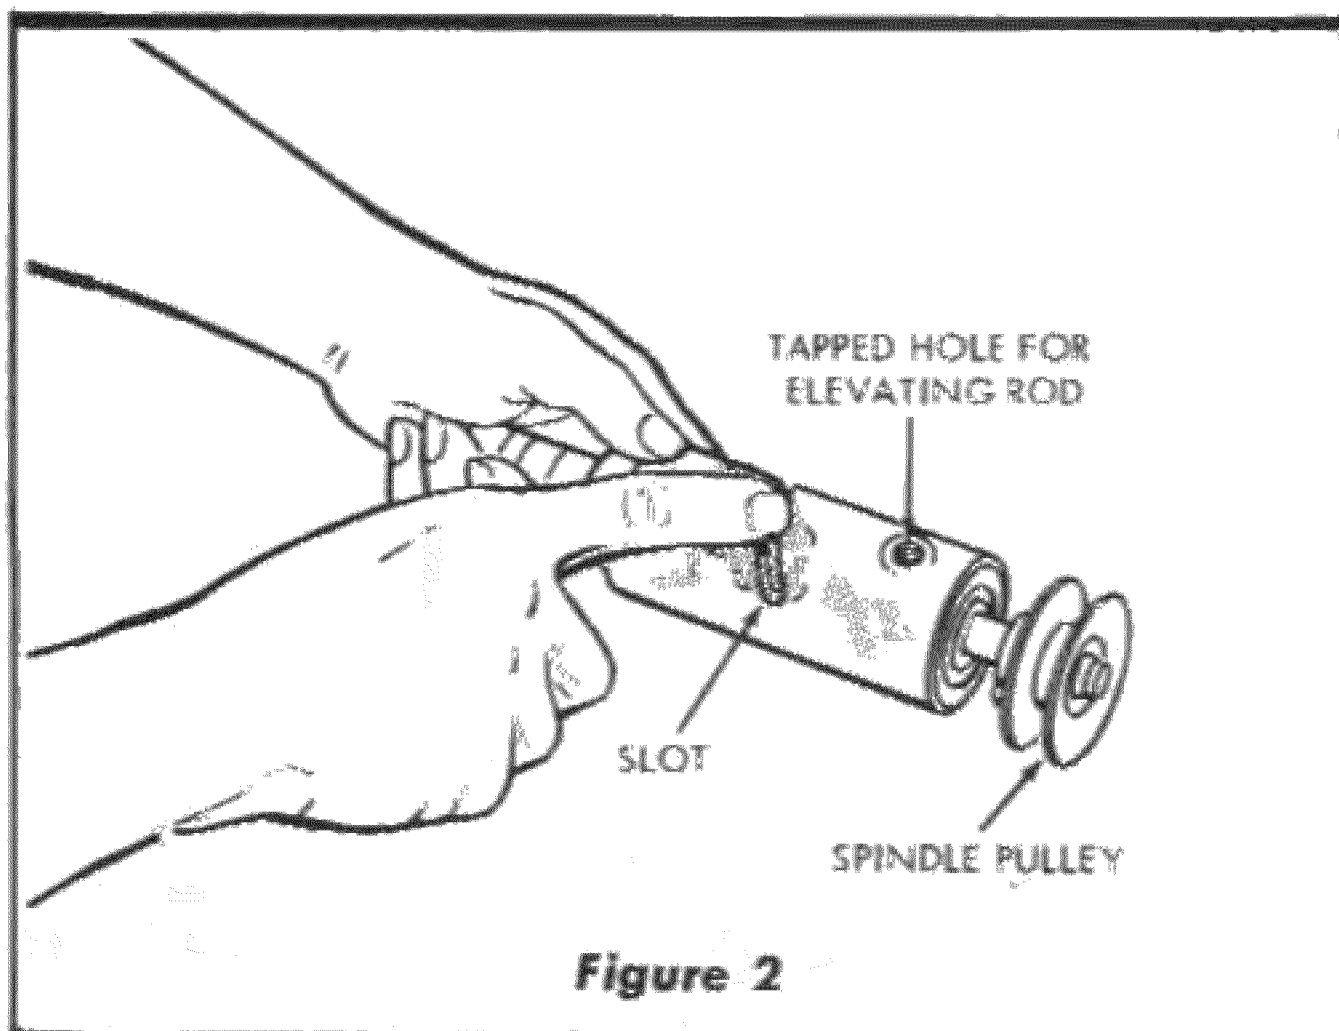

Figure 2
1. Coat the spindle assembly with cup grease, being sure to wipe some of the grease into the elevating slot milled in the quill. (See figure 2.)